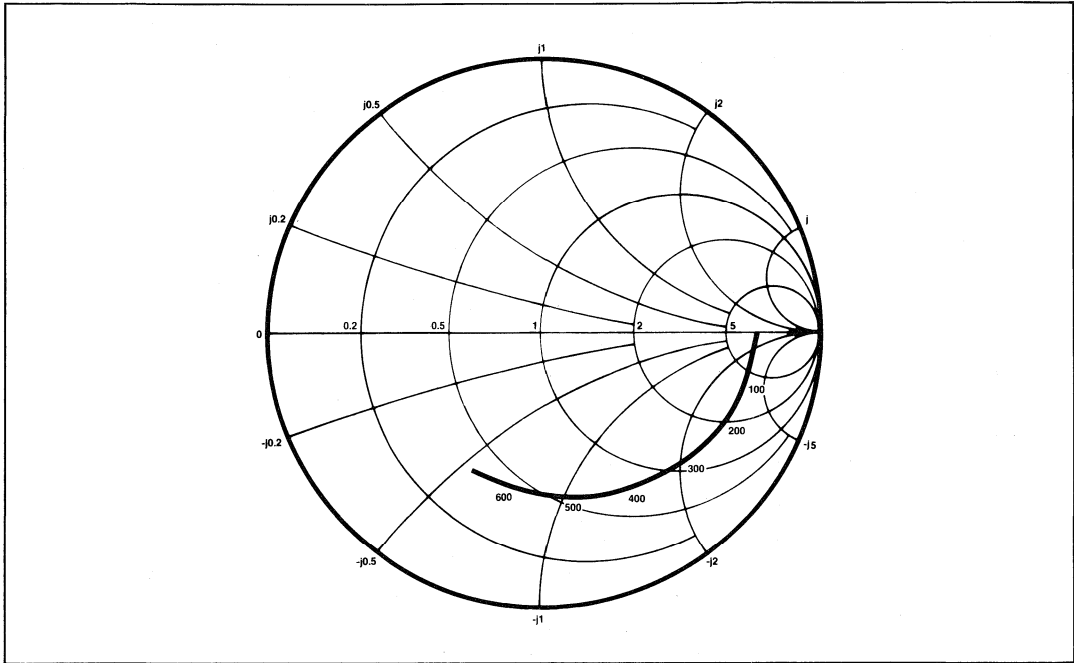

Fig.4 Typical input impedance. Test conditions: supply voltage 5V, ambient temperature 25°C, frequencies in MHz, impedances normalised to 50 ohms.
7. Input impedance is a function of frequency. See Fig.4.